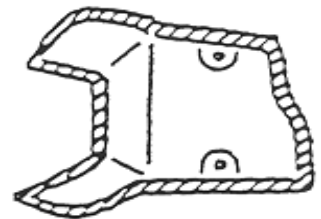

Fig. C-12 Damper Link Access Panel
STEP 28: Install the damper link access panel. Cement the mating surface on the access panel as indicated in Fig.C-12. Place the access panel against its mating surface on the left air/wear plate and upper fireback, rear portion first. Secure with 2 each, socket, flat head machine screws (1/4-20x 1/2"). Check the damper operation, if binding or stoppage occurs, correct the problem. Do not force the linkage.